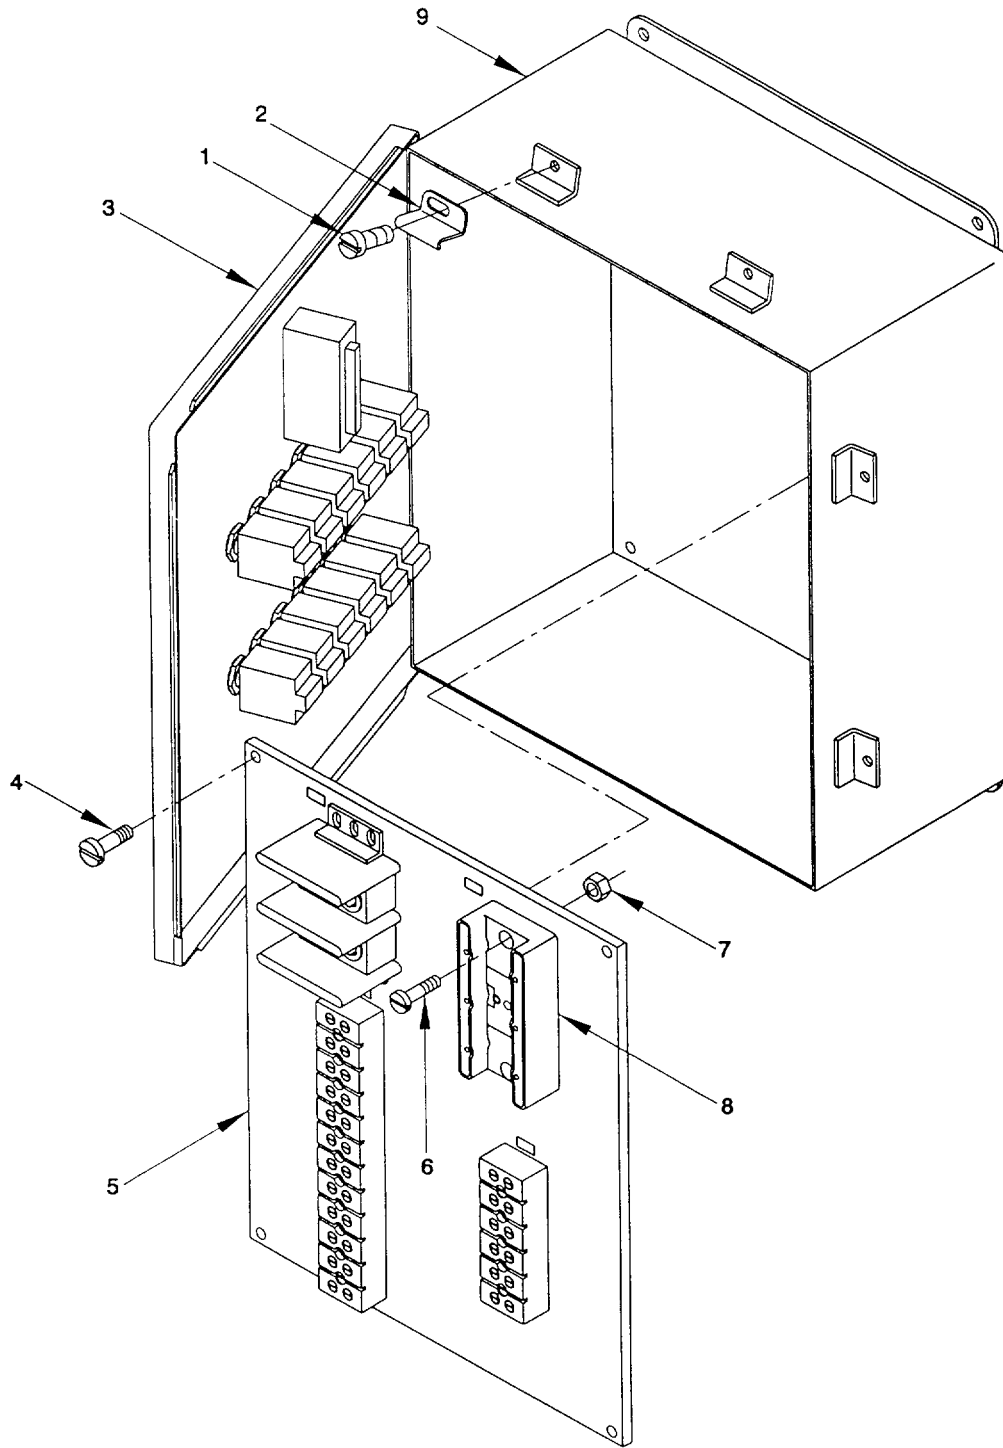

Figure 2-66. Power Distribution Block, Propulsion Module Circuit Breaker Panel "A6", Remove/Install
a. Remove. (figure 2-66)
- (1) Remove six screws (1) and six clamps (2) securing cover (3) to enclosure (9). Swing cover (3) open.
- (2) Disconnect and tag electrical wiring to power distribution block (8). Refer to Appendix G.
- (3) Remove four screws (4) securing panel (5) to enclosure (9). Lift panel (5) enough to access the rear of the panel (5).
- (4) Remove two round head screws (6) and two insert nuts (7) securing power distribution block (8). Remove power distribution block (8).
b. Install. (figure 2-66)
- (1) Apply antiseize compound to screws (1, 4 and 6).
- (2) Install new power distribution block (8). Secure power distribution block (8) with two round head screws (6) and two insert nuts (7).
- (3) Install panel (5) in enclosure (9). Secure panel (5) with four screws (4).
- (4) Reconnect electrical wiring, as tagged, to power distribution block (8). Refer to Appendix G. Use tie wraps to secure any loose wires.
- (5) Close cover (3) and secure with six clamps (2) and six screws (1).